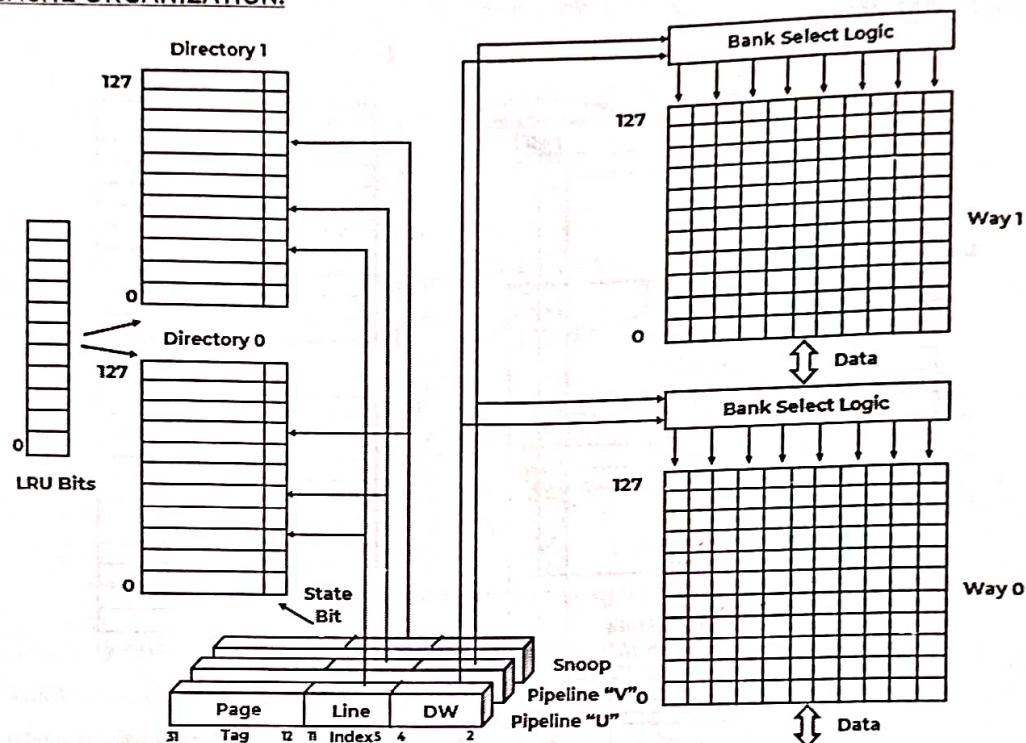

Figure 6.3: Pentium Data Cache Architecture.
3. Figure 6.3 shows Pentium Data Cache Architecture.